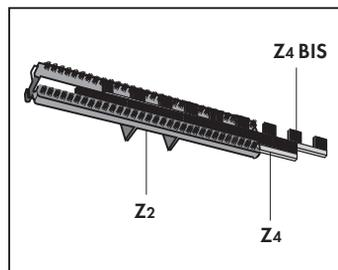

Fig. 18a
**FITTING THE BRISTLED INSERTS (Z4 AND Z4 BIS) ONTO THE BRISTLED FRAME (Z2) (Fig. 18a)**
Install the bristled insert (Z4) with continuous bristles to the rear guide of the frame (Z2) and the bristled insert (Z4 BIS) with alternate bristles to the front guide of the frame (Z2), as shown in Figure 18a.